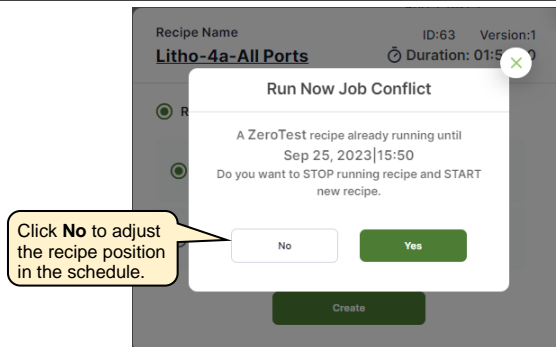

Figure 37: Run Recipe Now – Conflict Alert and Response Choices
7. If there is another recipe scheduled that conflicts with the recipe that occupies the same or part of the selected time (**Run Now** in this example), the following **Job Conflict** alert (Figure 37) will pop up giving the choice to either click **No** to schedule it later or **Yes** to stop the currently running recipe and to start the new recipe. Click the **Yes** button to override and start the new recipe. To run later, see the section: **Scheduling the New Recipe (Run Later)**.